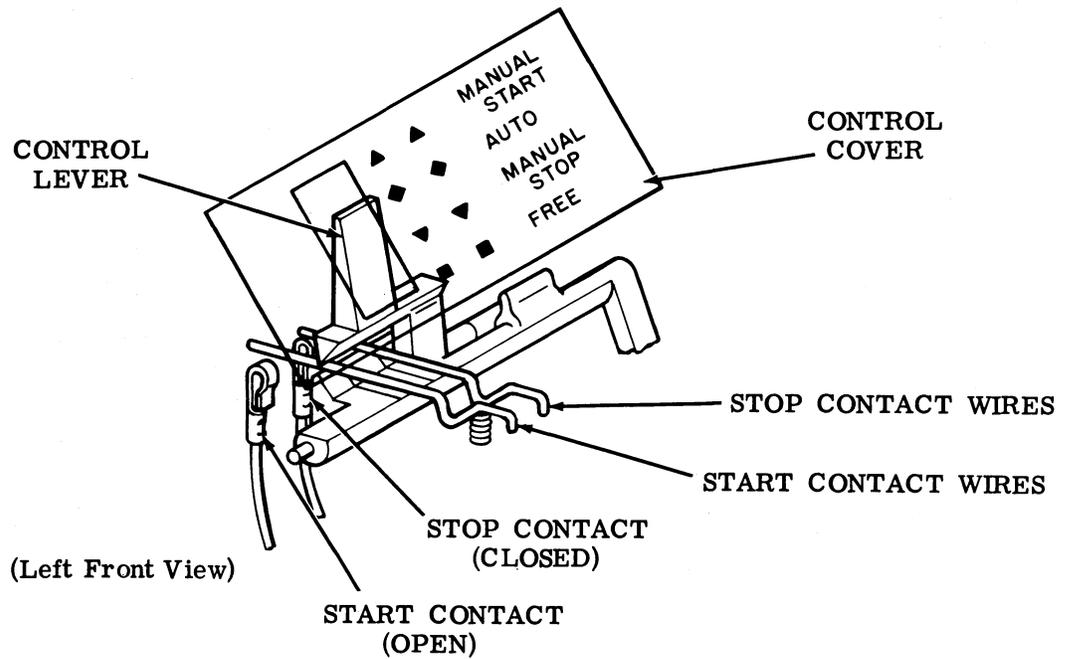

Figure 19 - Automatic Start Position
**B. Remote Start (Figure 19)**